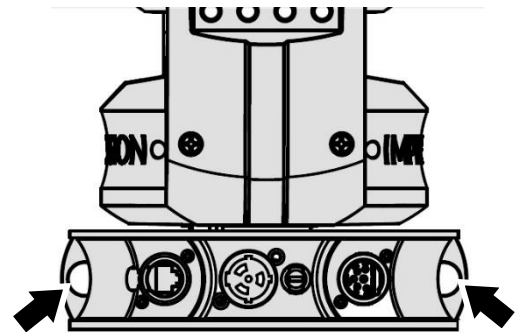

Figure 2. Safety cable attachment points
1. See Figure 2. Pass the safety cable through one of the two safety attachment eyelets (arrowed) in the base of the fixture. If any type of floor stand or Omega Bracket is installed on the fixture, do not use any part of these accessories for safety cable attachment, or you will leave the fixture unsecured.